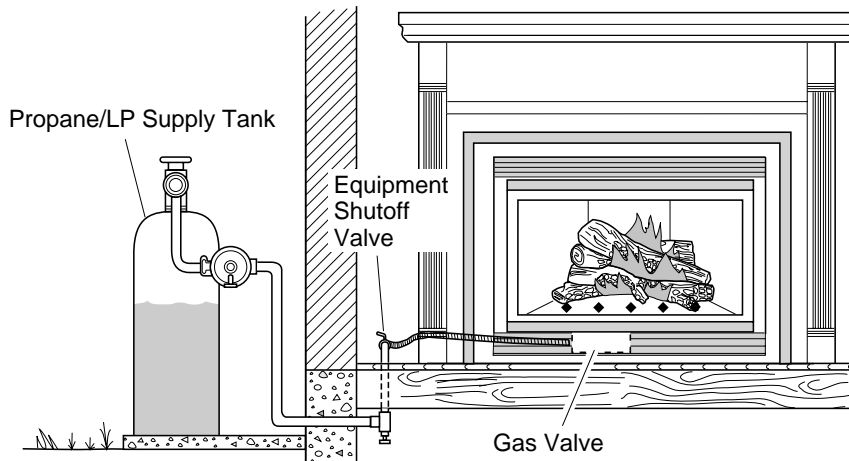
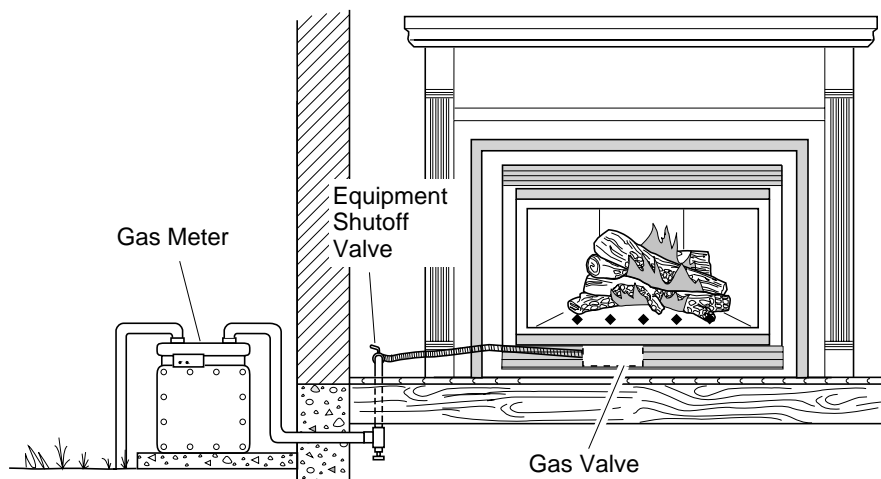

Figure 37 - Checking Gas Joints for Propane/LP Gas Fireplace
Figure 38 - Checking Gas Joints for Natural Gas Fireplace
3. Check all joints from propane/LP supply tank or gas meter to equipment shutoff valve (see Figure 37 for propane/LP or Figure 38 for natural). Apply commercial leak test solution to all gas joints. Bubbles forming show a leak. Correct all leaks at once.
4. Check all joints from equipment shutoff valve to thermostat gas valve (see Figure 37 for propane/LP or Figure 38 for natural). Apply commercial leak test solution to all gas joints. Bubbles forming show a leak. Correct all leaks at once.